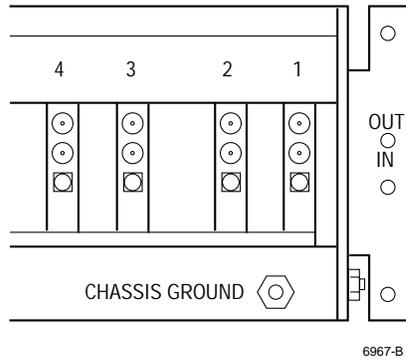

Figure 13. Chassis Ground Terminal
4. Connect the chassis ground terminal at the rear of the chassis to the office frame ground. See Figure 13.